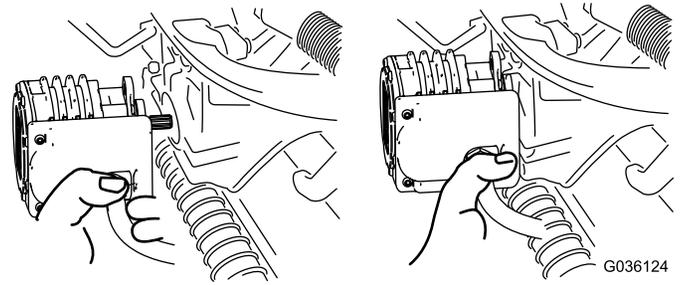

Figure 66
4. Move the motor to the storage location on the front of the suspension arm (Figure 66).